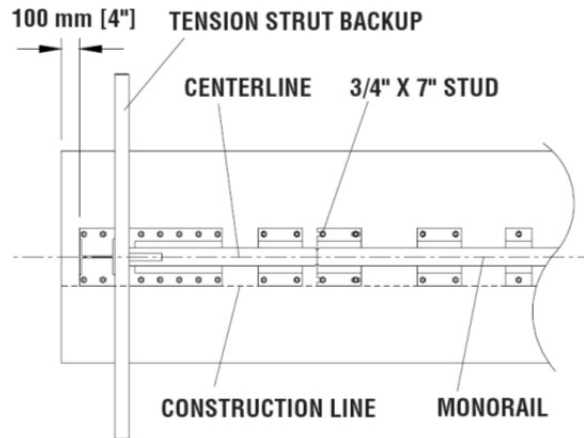

Figure 52
Locate the Tension Strut Backup and Monorail on foundation with side of Monorail on the construction line (See Figure 52 on Page 39). Verify that any applicable Transition Panels fit properly before anchoring Backup. Drill anchor holes in foundation using the Backup as template. Anchor the Backup to the concrete foundation using the MP-3[®] Anchoring System (vertical kit) supplied with the QuadGuard[®] II system (See "MP-3[®] Polyester Anchoring System" section on Page 51).
Locate the Extra-Wide Tension Strut Backup center section and Monorail on foundation with side of Monorail on the construction line (See Figure 52 on Page 39).
B) Monorail Construction for Tension Strut Backup (See Figure 52).
Locate Monorail on foundation with side of Monorail on the construction line and rear edge of Backup 4" forward of edge of foundation (See Figure 52).
Orient the Monorail so that the Monorail tongues face the Backup (See Figure 52).